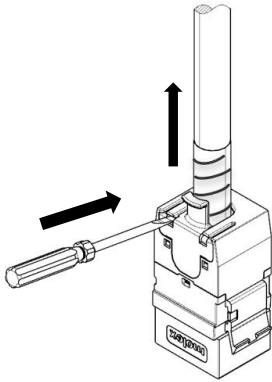
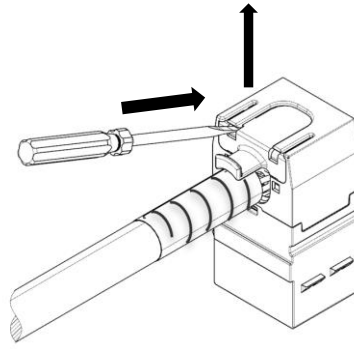

Fig.19
Fig.21
4.4 Insert Screwdriver under the latch of Rear Housing and gently lift and pushing the cable outwards and repeat for second latch. Fig.19 and 20 for straight entry. and Fig.21 and 22 for side entry.